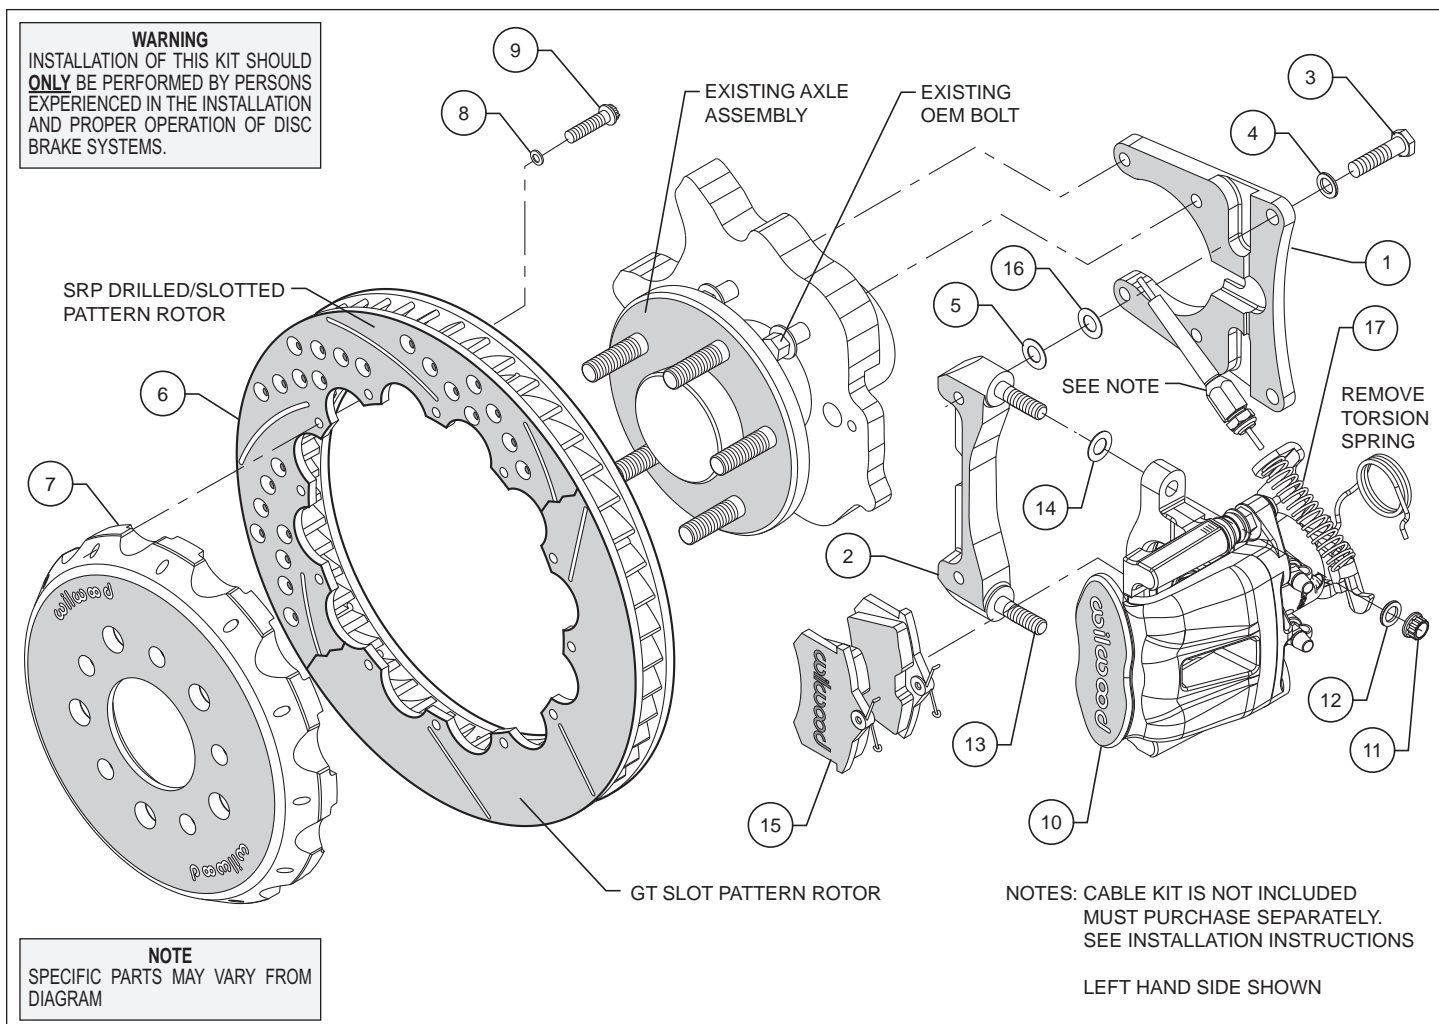

Figure 1. Typical Installation Configuration
- Once all clearances have been checked, remove the wheel, caliper and rotor from the axle flange. Secure the caliper mounting bracket (2) to the axle bracket (1) while applying red *Loctite*® 271 on the bolt threads (3) and torque bolts (3) to 30 ft-lb. Then secure the axle bracket assembly (1) to the housing flange using red *Loctite*® 271 on the bolt threads. Torque the bolts to manufacturer's specifications. Reinstall the rotor and again use several lug nuts to hold it in place. Reinstall the caliper, torque the caliper nuts (11) to 30 ft-lbs.
- Install new parking brake cable (not included with kit). Wilwood offers a custom parking brake cable kit, P/N 330-10791 for this kit which can be ordered separately from your local Wilwood dealer or by calling Wilwood customer service at (805) 388-1188. **NOTE:** *Original equipment cable will not adapt to Wilwood calipers.*
- Install compression spring (17) between the two lever arms of the caliper (10) with cable feed through as shown in figure 1. Caution should be used when handling springs.